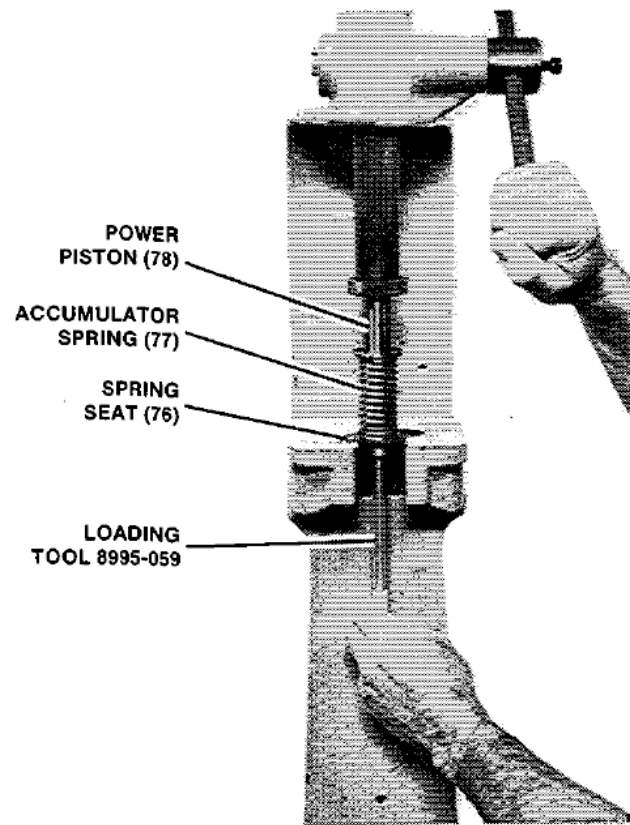

Figure 5-9. Accumulator Loading Tool
To prevent physical injury or damage to the piston, be careful when removing spring loader 8995-059 from the accumulator piston. The accumulator spring is compressed between the spring seat (76) and accumulator piston (78). Take proper precautions while removing the tool. Use an arbor press as shown in Figure 5-9, to relieve compression of the accumulator spring.
12. Install the drive shaft and pump assembly in base (95). Match the arrow on pump housing (82) with the arrow on base (95) for the correct drive rotation for your governor.
13. Secure the pump housing with four screws (75).
15. Refer to Figure 5-9 to assemble the accumulator assembly. Place spring seat (76) bottom side up on the arbor press. Place spring (77) on the spring seat, and place accumulator piston (78) on the spring. Carefully compress the spring, and screw spring loader 8995-059 into the accumulator piston. Place this assembly in the case and secure with two screws (75).